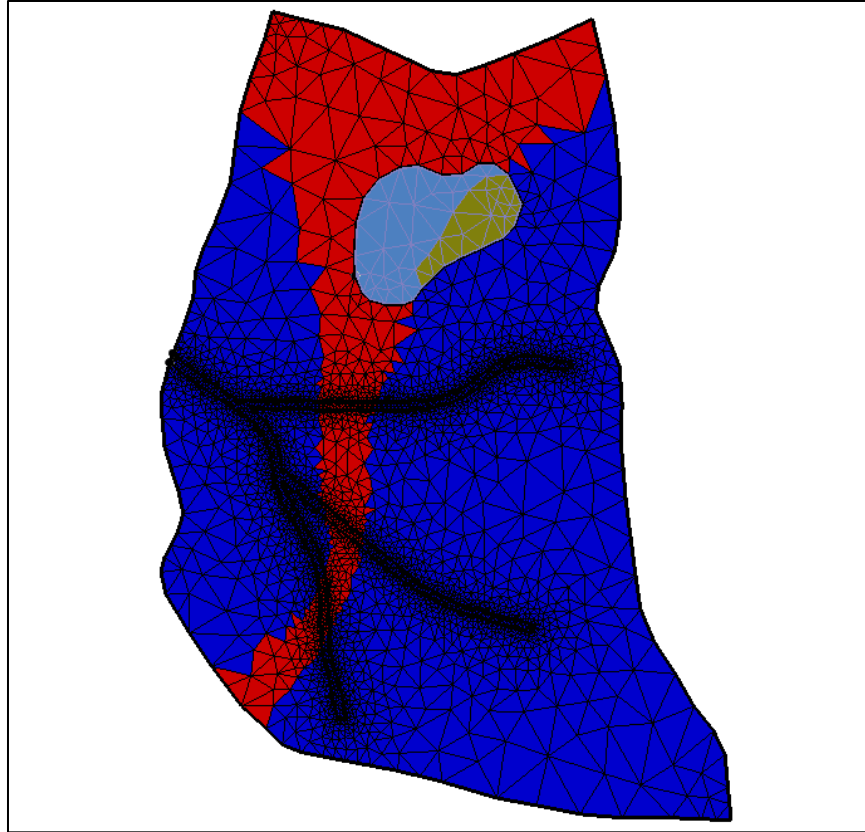

Figure 5 The clay lens polygon selected
11. Using the **Select Polygons**  tool, select the clay lens polygon (Figure 5).